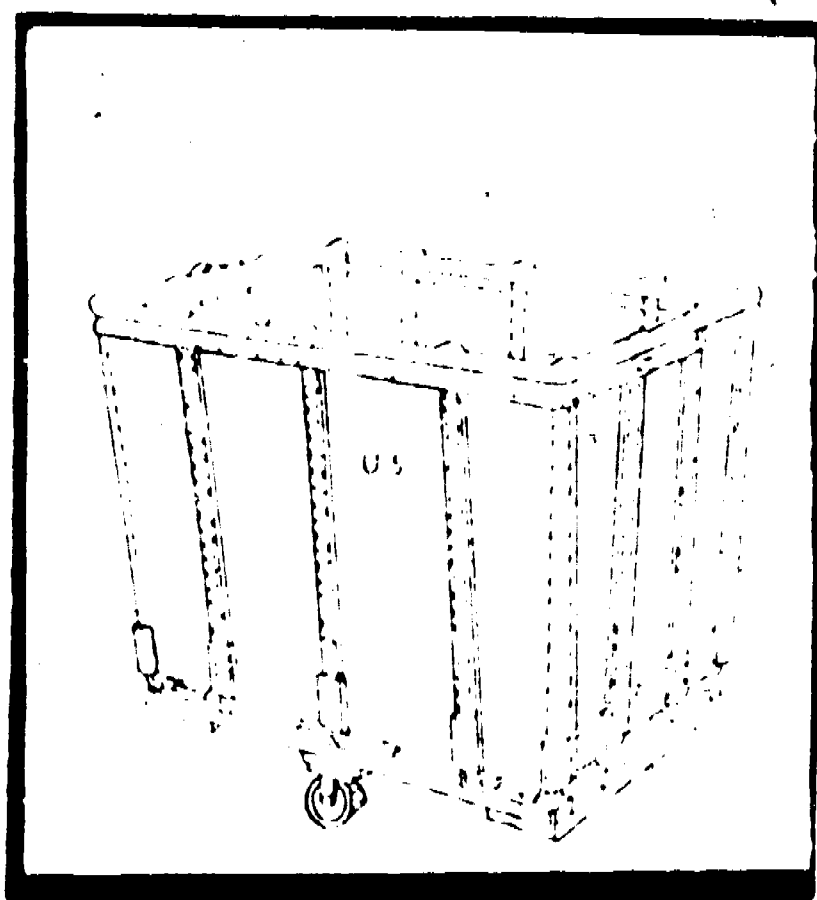

Figure 2-1. Basket with removable liner.
a. Basket with removable liner. This basket (fig. 2-1) has a frame with a removable body, or canvas liner, both of which may be mounted on hardwood skids, caster boards, or steel bottoms. This assembly is constructed primarily of natural-color canvas, spring-steel wire, and hardwood. The canvas liner forming the basket is placed over the steel frame, which is mounted on the appropriate foundation. The 8-bushel basket is about 36 inches long, 24 inches wide, and 20 inches deep. This assembly is also made in 10-, 12-, 14-, and 16-bushel sizes. Though there may be slight differences in the frames, liners, and skids, construction of these baskets is essentially similar.